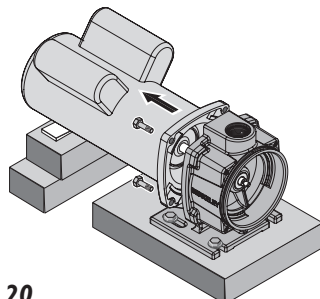

Figure 20
10. Block up the motor (so that the shaft will not take the weight of the motor when you loosen the capscrews holding the motor to the bracket), remove four capscrews (Key No. 2), and slide the motor and shaft back out of the bracket (see Figure 20).